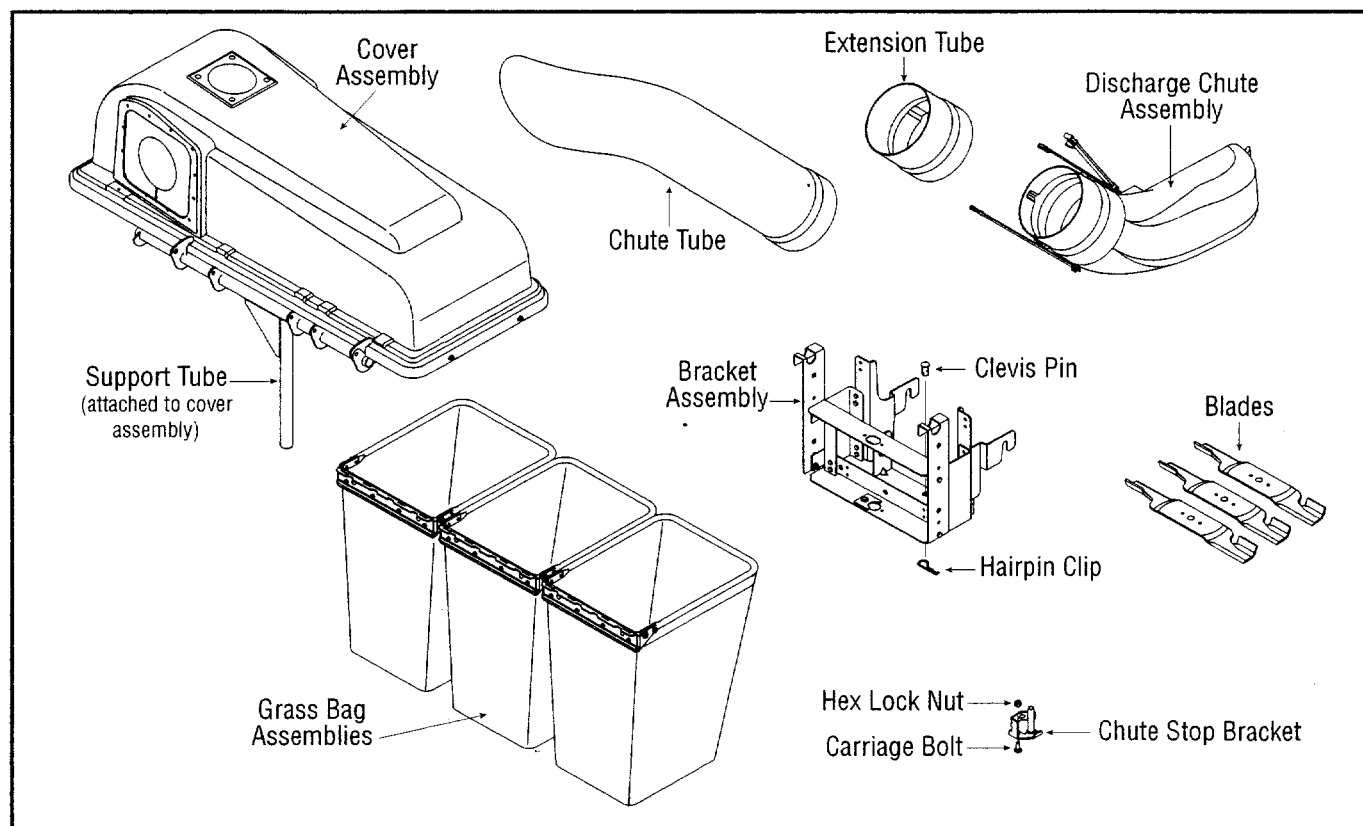
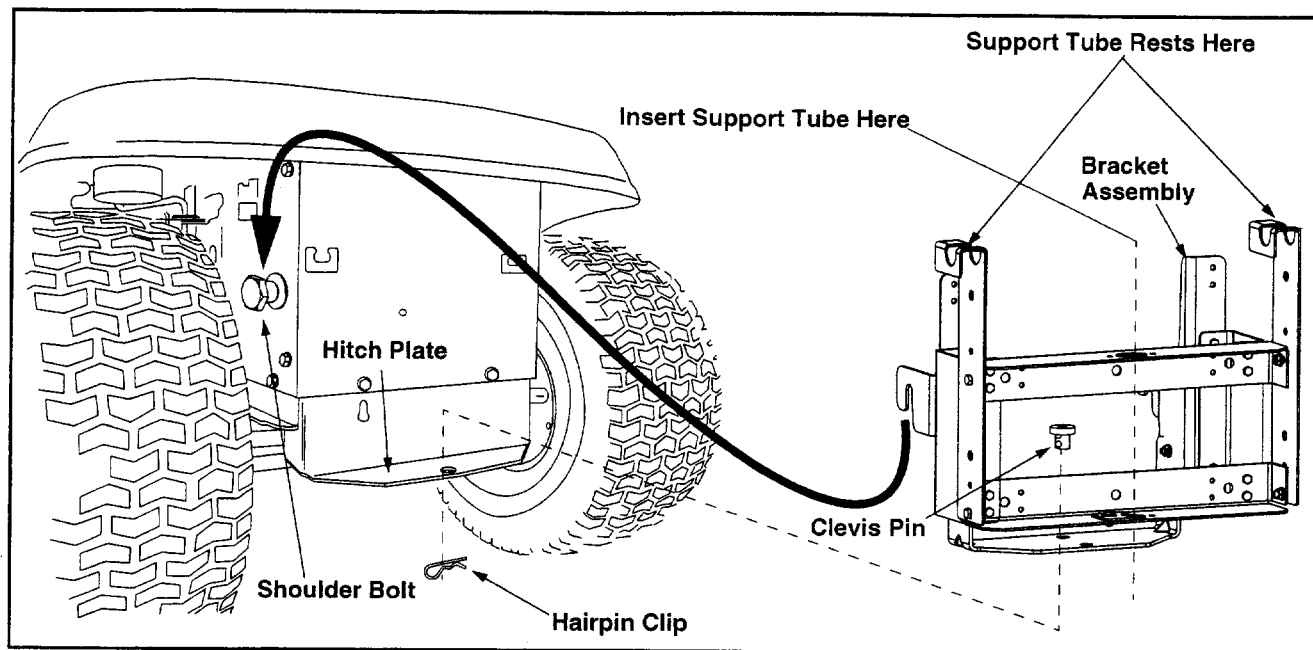

Figure 1
Figure 2
Before beginning installation, remove all parts from the carton to make sure everything is present. Carton contents are listed below and shown in Figure 1. Hardware part number are shown in parentheses.
- Remove the hairpin clip and clevis pin from the hole in the rear of the bracket assembly. Refer to Figure 1
- Position the hooked ends of the bracket assembly to the outside of the tractor's hitch plate and over the shoulder bolts. See Figure 2.
- Reinsert the clevis pin through the aligned holes in both the bracket assembly and the hitch plate. Affix with the hairpin clip. See Figure 2.
- Place the cover assembly's support tube (refer to Figure 1) in position on the rear of unit by sliding the support tube down through the holes in the center of the bracket assembly. Refer to Figure 2.
- Place the cover assembly in position so that the support tube rests on both sides of the bracket assembly. Refer to Figure 2.